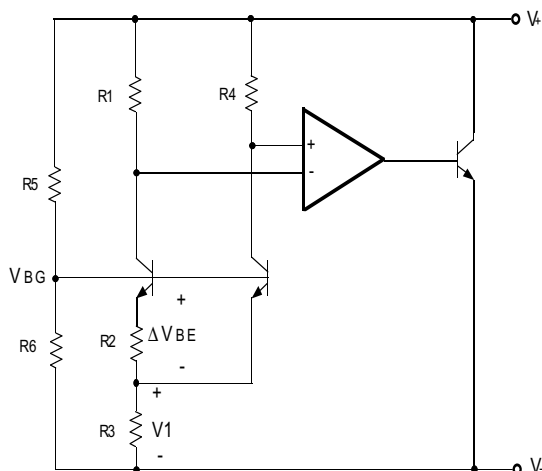

Figure 7. AD1586/7/8/9 Simplified Schematic
The AD1586/7/8/9 family uses the "bandgap" concept to produce stable, low-temperature coefficient voltage references which are suitable for high accuracy data-acquisition components and systems. This family of precision references makes use of the underlying temperature characteristics of a silicon transistor's base-emitter voltage in the forward-biased operating region. Under this condition, all such transistors have a $-2 \text{ mV}/^\circ\text{C}$ temperature coefficient (TC) and a V_{BE} that, when extrapolated to absolute zero, 0°K , (with collector current proportional to absolute temperature) approximates the silicon bandgap voltage. By summing a voltage that has an equal and opposite temperature coefficient of $+2 \text{ mV}/^\circ\text{C}$ with the V_{BE} of a forward-biased transistor, a zero TC reference can be developed. In the AD1586/7/8/9 simplified circuit diagram shown in Figure 7, such a compensating voltage, V_1 , is derived by driving two transistors at different current densities and amplifying the resultant V_{BE} difference (ΔV_{BE} - which has a positive TC). The sum (V_{BG}) of V_{BE} and V_1 is then scaled by the R_5/R_6 resistor network to produce stable reference voltage outputs of 2.5V, 3V, 4.096V, and 5V. To ensure that the bandgap cell and resistor network maintain their required current levels, a buffer amplifier drives an output transistor to sink any excess current.